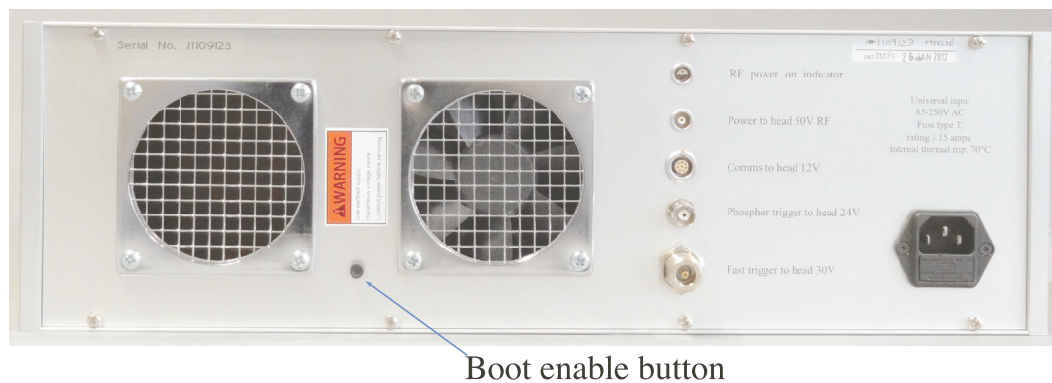

Figure 33 The location of the unmarked boot enable button on the rear panel
- 16 Press and hold down the Boot Enable button on the rear of the control unit. It is not marked but is shown in Figure 33 on page 56.